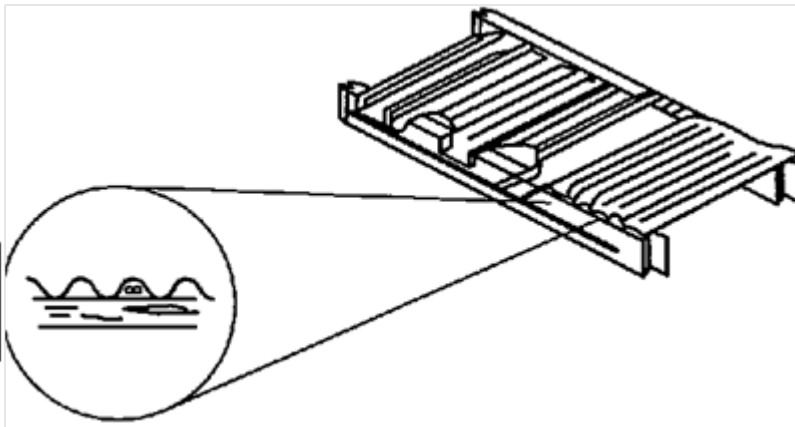

FIGURE 3.6 PROHIBITED CABLE LOCATION-ROOF OR WALL-LINING MATERIALS
**Wiring systems** shall not be installed through any space formed between roofing or wall-lining material and its immediate supporting member (see Figure 3.6).
NOTE: Examples of these situations include those between tile battens and roofing tiles or between corrugated (or other profile) sheeting of a wall or roof and its supporting members are shown in Figures 3.6 and 3.7. (Clauses 3.9.4.1 and 3.9.4.3.2)
- The figure 3.6 is a poor drawing and only relates to an example in the rule note. It does not make the rule it is just illustrating a point. We need to look at the wording of the clause for the rule.